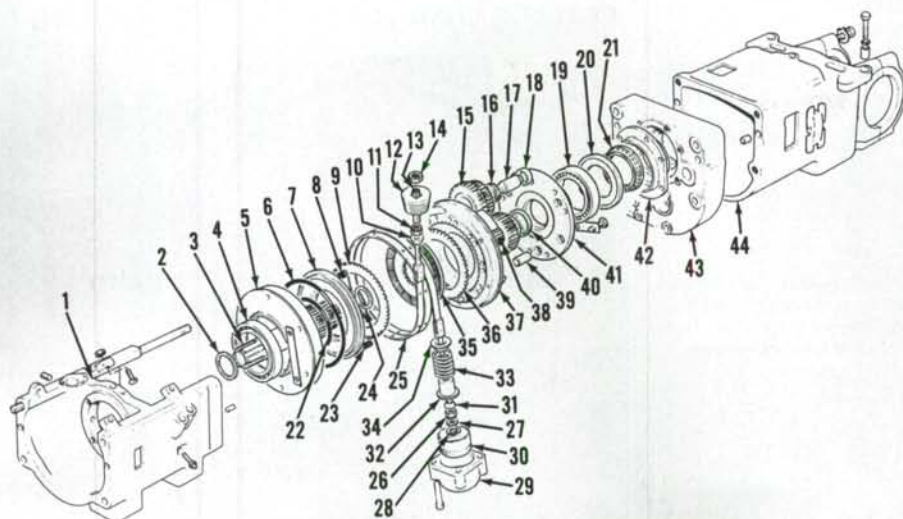

Fig. 197—Exploded view of rear planetary assembly of power shift transmission. See Fig. 196 for view of front planetary assembly.
Turn center housing over, then remove rear brake band and rear planetary assembly (Fig. 197) from housing in same manner as front unit. Unbolt and remove bearing carrier (46—Fig.
196) from center housing. Remove spacer (20—Fig. 197), sprag clutch (21) and carrier (42) from rear end housing (43) if necessary.
262. REAR PLANETARY OVERHAUL. Mark clutch cylinder (5—Fig. 197), carrier (37) and end cover (41) so they can be reassembled in their original positions. Remove clutch cylinder mounting bolts and separate planetary halves. Remove inner and outer springs (8 and 23). Remove piston (7) from cylinder and remove and discard "O" rings (6 and 22).
Install new bearing (4—Fig. 197) on clutch cylinder (5). Lubricate "O" rings (6 and 22) and install on piston, then carefully install piston into cylinder. Install inner springs (8) and apply grease to hold springs in position during assembly.
Install bearing pins (17) in carrier (37) making sure they are in their original positions. Assemble a short bearing (16), thrust washer (18) with oil groove facing away from short bearing and a long bearing onto bearing pins. Install planetary gears on their original pins with gear timing marks pointing toward center of carrier. See Fig. 198. Place thrust washer in sun gear counterbore with oil groove side of washer facing up. Install sun gear with thrust washer towards carrier aligning timing marks as shown in Fig. 198. Install new bearing (19—Fig. 197), if removed, on end cover (41) and position thrust washer (40) in cover. Position end cover over planetary gears aligning assembly marks made during disassembly. Tighten mounting bolts to 40 N·m (30 ft.-lbs.) torque and secure with locking plates.
Install outer clutch springs (23—Fig. 197). Align assembly marks and install cylinder (5) on carrier. Tighten mounting bolts to 27 N·m (20 ft.-lbs.) torque, then bend corners of locking plates against bolt heads.